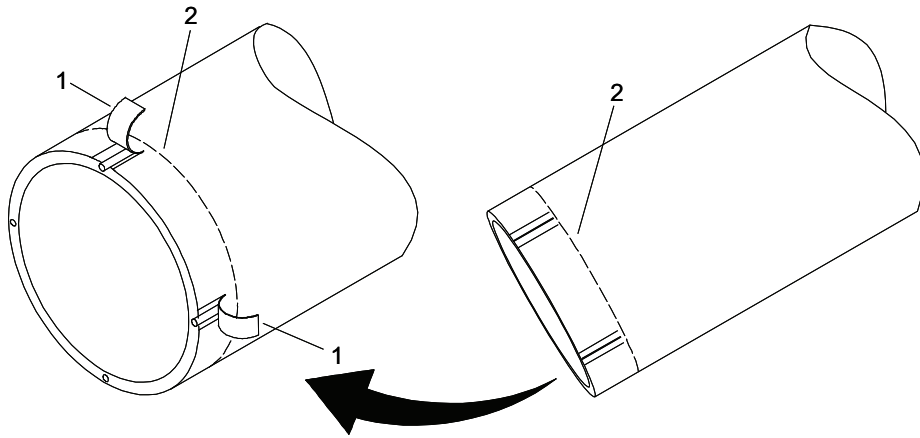

Figure 17. Hose Assembly Repair.
9. Using needle nose pliers, pull the outer layer of the hose assembly fabric (Figure 17, Item 1) back by grabbing the outer layer of the hose assembly fabric (Figure 17, Item 1) and rolling the pliers toward the radial line (Figure 17, Item 2) previously marked on the hose assembly.
10. Using a knife cut the rolled back hose assembly fabric (Figure 17, Item 1) along the radial (Figure 17, Item 2). Discard excess hose assembly fabric (Figure 17, Item 1).